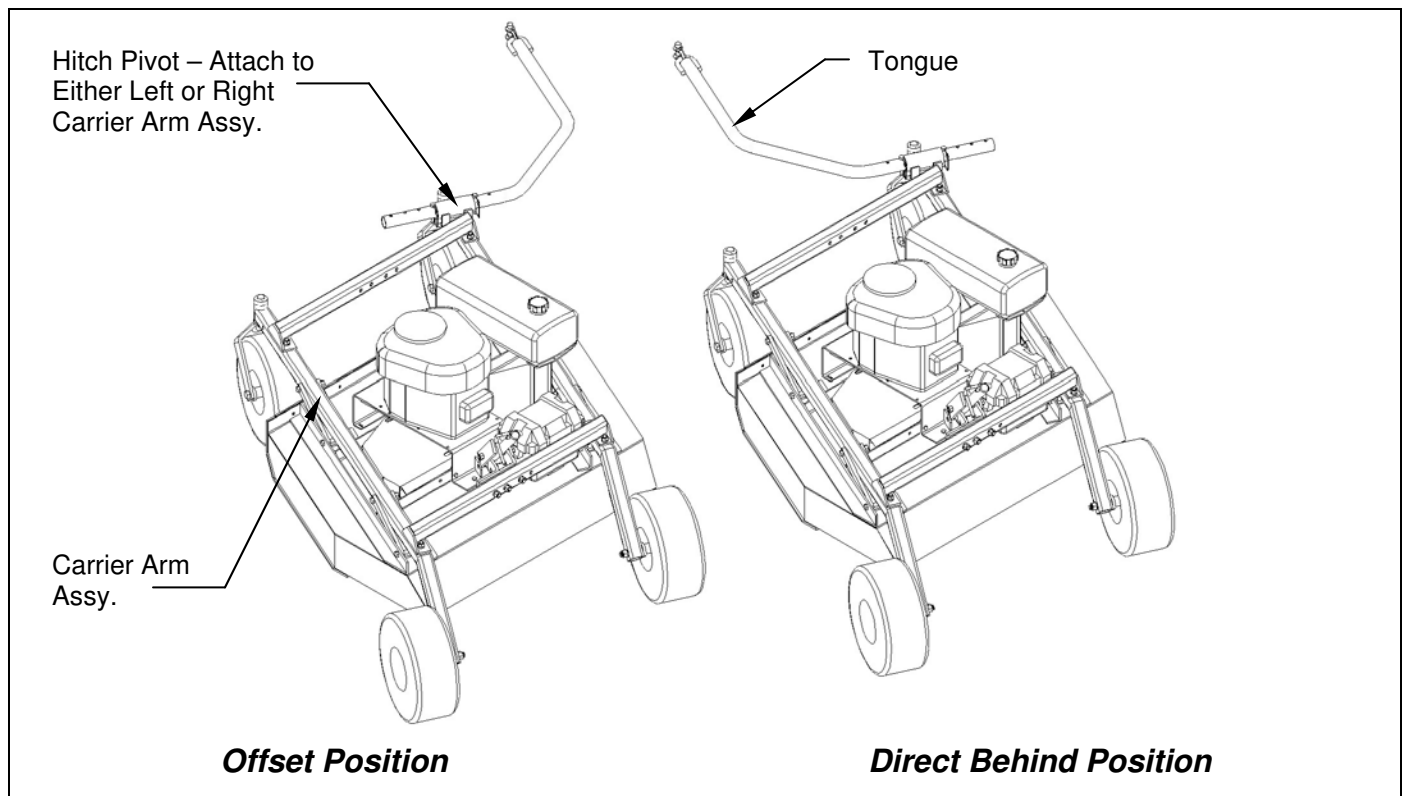

Figure 5: Assembly of the Tongue and Hitch Pivot
1. The tongue can be installed either on the left or right carrier arm assembly depending on how the tow-behind mower will be towed. **See figure 5.** Secure the hitch pivot on the chosen carrier arm assembly with the 1/2" x 3-1/2" hex head bolt, lock washer, and nut provided.
**Note:** When pulling the mower directly behind, the hitch pivot should be fastened on the right carrier arm for maximum maneuverability. **See Figure 5.** When pulling the mower in the offset position the hitch pivot can be fastened on either the right or left carrier arm. **See Figure 5.**